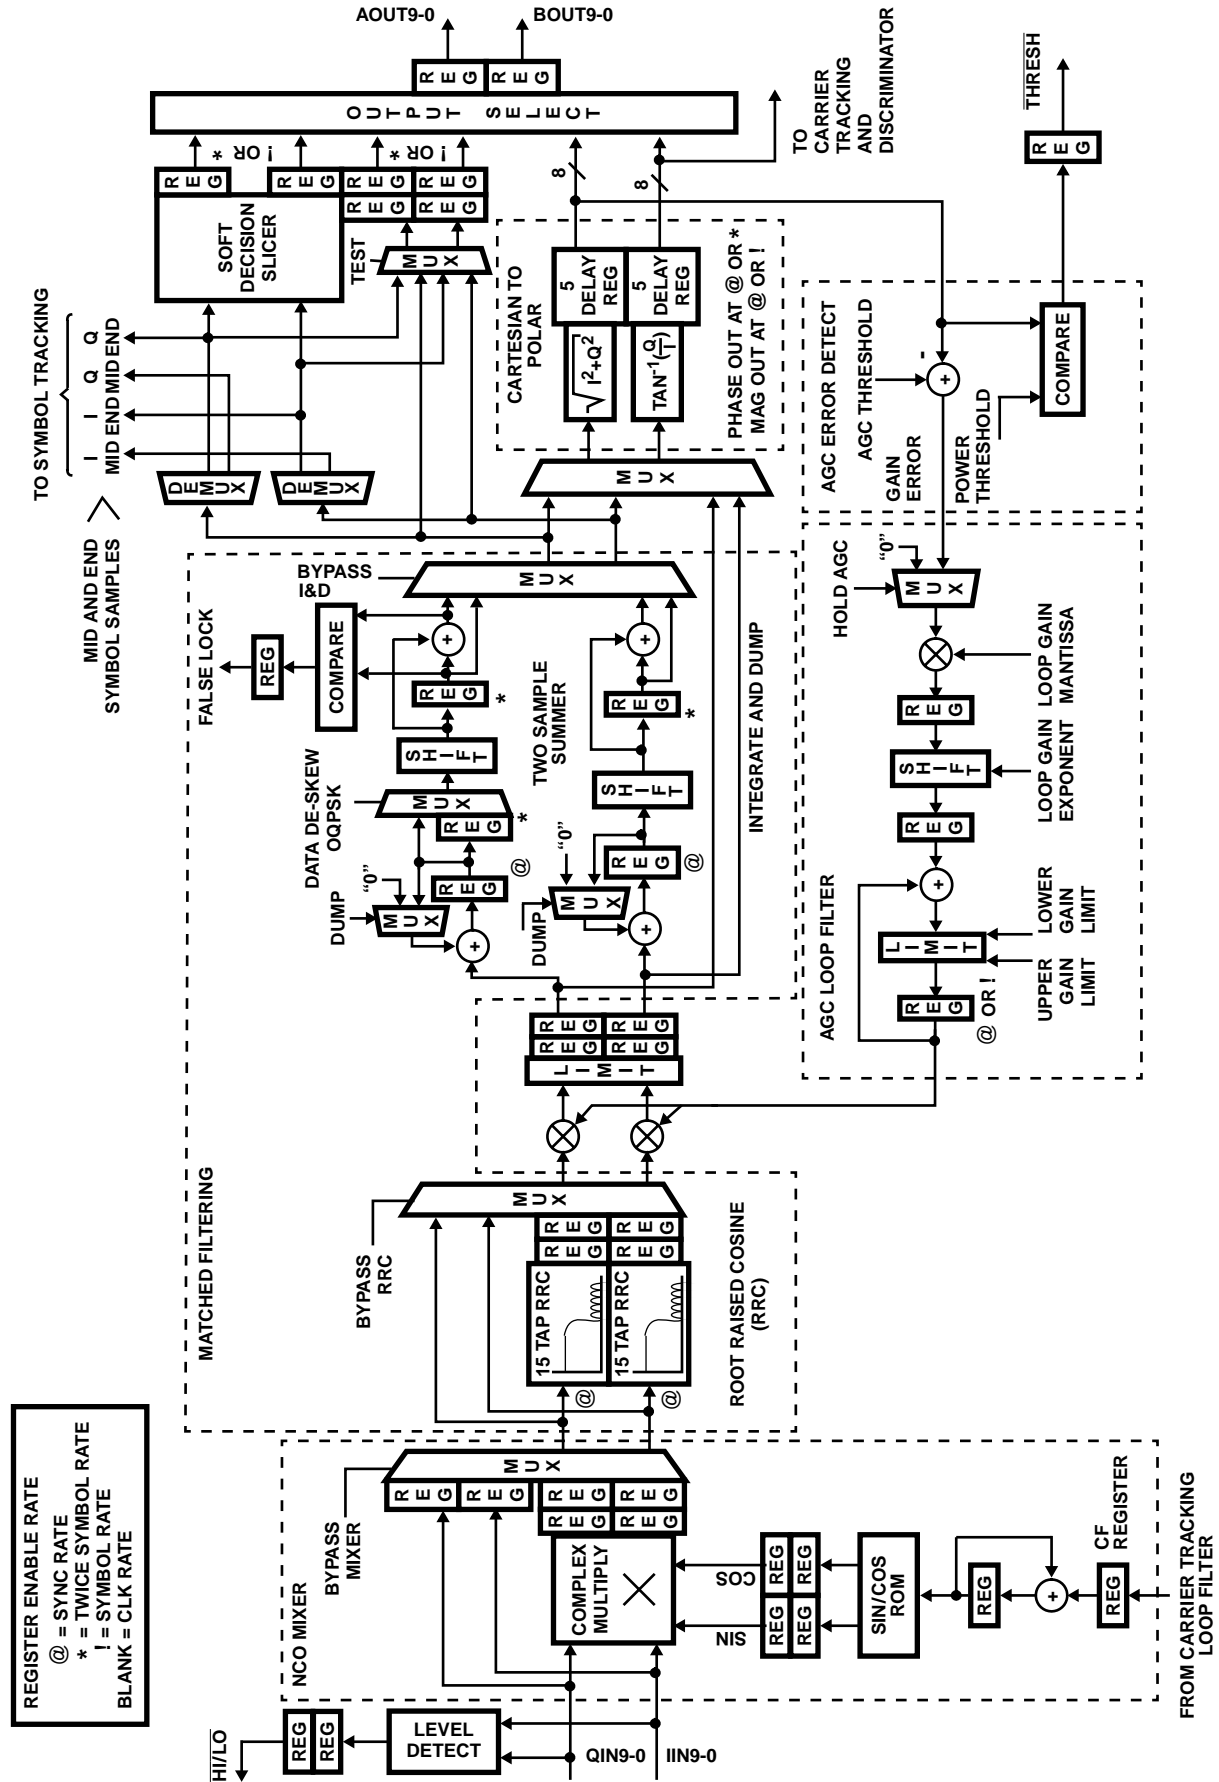

FIGURE 3. MAIN DATA PATH
Equation 3 illustrates how the complex multiplier implicitly performs the summing function when the DCL is configured as a modulator. The quadrature outputs of the NCO are generated by driving a sine/cosine look-up table with the output of a phase accumulator as shown in Figure 3. Each time the phase accumulator is clocked, its sum is incremented by the contents of the Carrier Frequency (CF) Register. As the accumulator sum increments from 0 to  $2^{32}$ , the SIN/COS ROM produces quadrature outputs whose phase advances from 0 to  $360^\circ$ . The CF Register contains a 32-bit phase increment which is updated with the output of
The HSP50210 provides two selectable matched filters: a Root Raised Cosine Filter (RRC) and an Integrate and Dump (I&D) filter. These are shown in Figure 3. The RRC filter is provided for shaped data pulses and the I&D filter is provided for square wave data. The filters may be cascaded for better adjacent channel rejection for square wave data. If these two filters do not meet baseband filtering requirements, then they can be bypassed and an external digital filter (such as the HSP43168 Dual FIR Filter or the HSP43124 Serial I/O Filter) used to implement the desired matched filter. The desired filter configuration is set in the Data Path Configuration Control Register, bits 1-7 (see Table 14).
The I&D filter consists of an accumulator, a programmable shifter and a two sample summer as shown in Figure 3. The programmable shifter is provided to compensate for the gain introduced by the accumulator (see Table 14). The accumulator provides Integrate and Dump Filtering for decimation factors up to 16. The two sample summer provides the moving average required for an additional decimation factor of 2. A decimation factor of 1 (bypass), 2, 4, 8, 16, or 32 may be selected. At the maximum decimation rate, a baseband signal sampled at 32 times the symbol rate can be filtered.